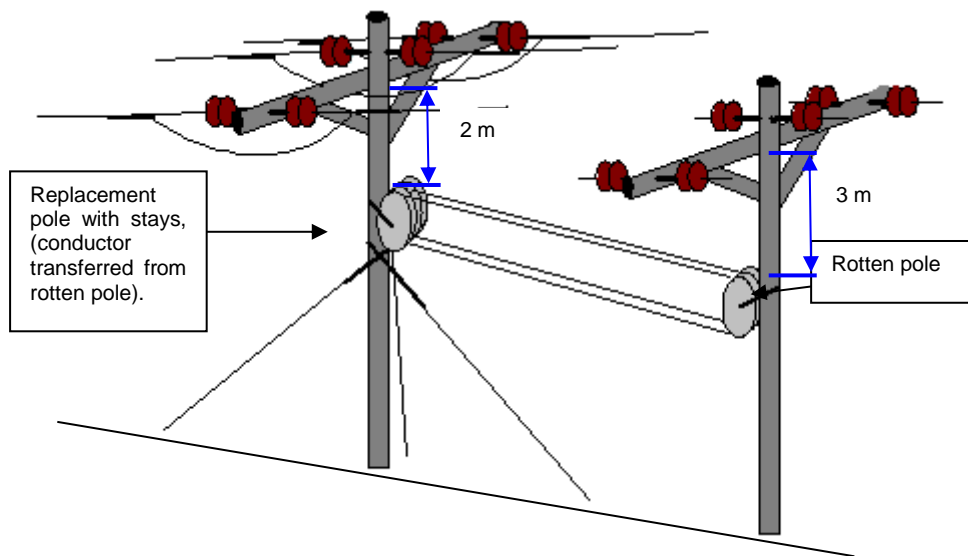

Figure 6: Removing Tension from Damaged Strain Pole
- c) Ensure that the replacement pole excavation is slotted in manner that it will allow manual erection as per drawing D-DT-0332 (see figure 6).
- f) Partially assemble replacement pole as per drawing (see figure 6).
- u) Attach conductor regulation equipment onto replacement pole, attach regulation equipment to conductors by use of come-a longs / conductor / wire grip etc (see figure 6).
- w) Disconnect conductor from rotten / damaged pole, slack off long slings / tiffors and complete conductor regulation, clamp-in and finalize (see figure 6).
- Attach 3 sheaved block on to replacement pole 2m below lowest conductor attachment point (see figure 6).
- Working from the replacement poles attach 2 sheaved block on to rotten / damaged pole 3m below lowest conductor attachment point (see figure 6).